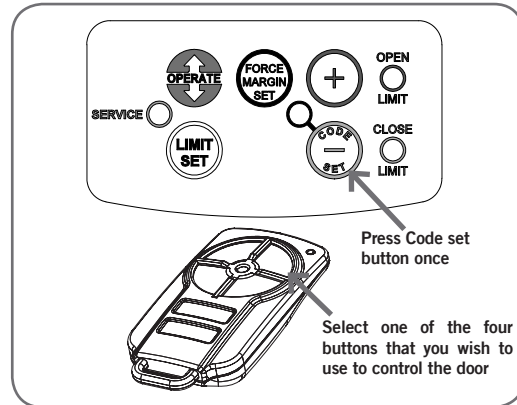

Fig.28
19.1 - Storing the Transmitters Code (Fig.28)